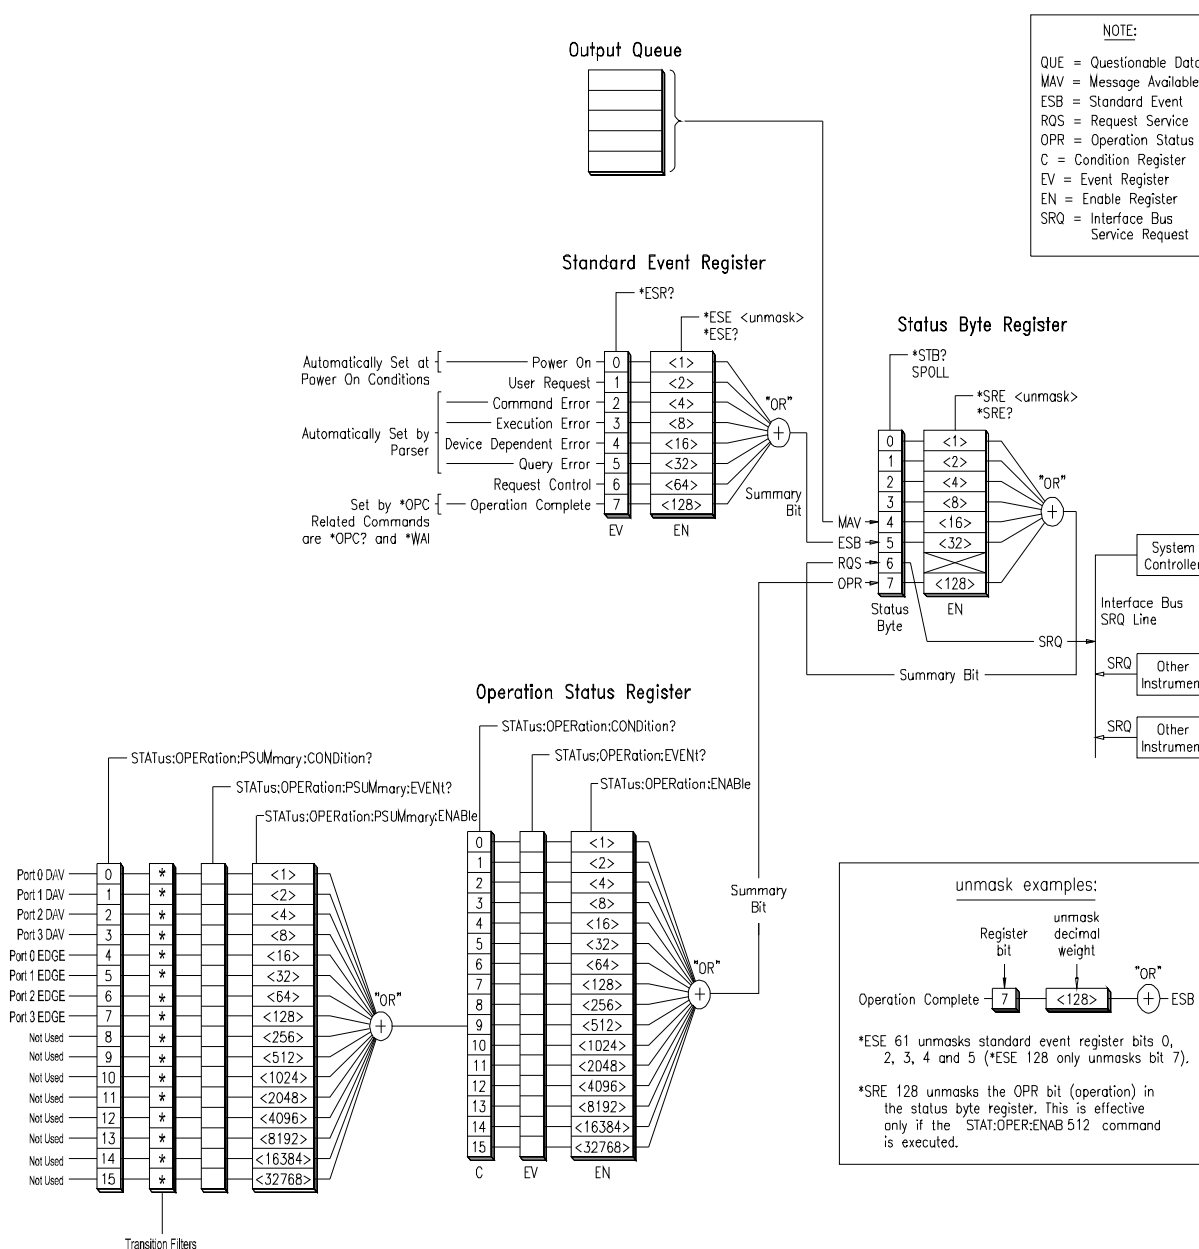

Figure 3-1 Keysight E1459A Status System Register Diagram
Event Status Register (the bits you want logically "OR'd" into the Summary bit). The registers are queried using decimal weighted bit values. The decimal equivalents for bits 0 through 15 are included in Figure 3-1.
- <mask> determines which OPERATION Status conditions are summed. See Figure 3-1. The events detected in the Port Summary Status Register are reported in bit 9 of the Operation Status Register which in turn is reported in bit 7 of the Status Byte Register.
- The only defined bit is bit 9 which is the summary of the Data Available and Edge Status for Ports 0, 1, 2, and 3. See Figure 3-1.
- Bits 0 through 3 reflect Data Available on Ports 0 through 3 respectively; bits 4 through 7 reflect edge events on Ports 0 through 3 respectively. See Figure 3-1.
- This mask determines which Operation Status Port Summary Events are summed and reported in bit 9 of the Operation Status Register. Bits 0 through 3 reflect Data Available on Ports 0 through 3 respectively; bits 4 through 7 reflect edge events on Ports 0 through 3 respectively. See Figure 3-1.